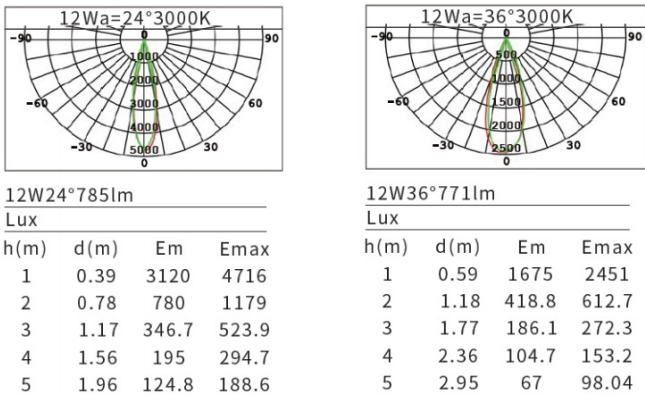

Figure 2- Adjustable CCT Light - Light Distribution
Step 2: Fix the outer ring (embedded part) on the ceiling with self tapping screws to prevent the outer ring from loosening, cracking, and falling off after painting (see Figure 2 below);